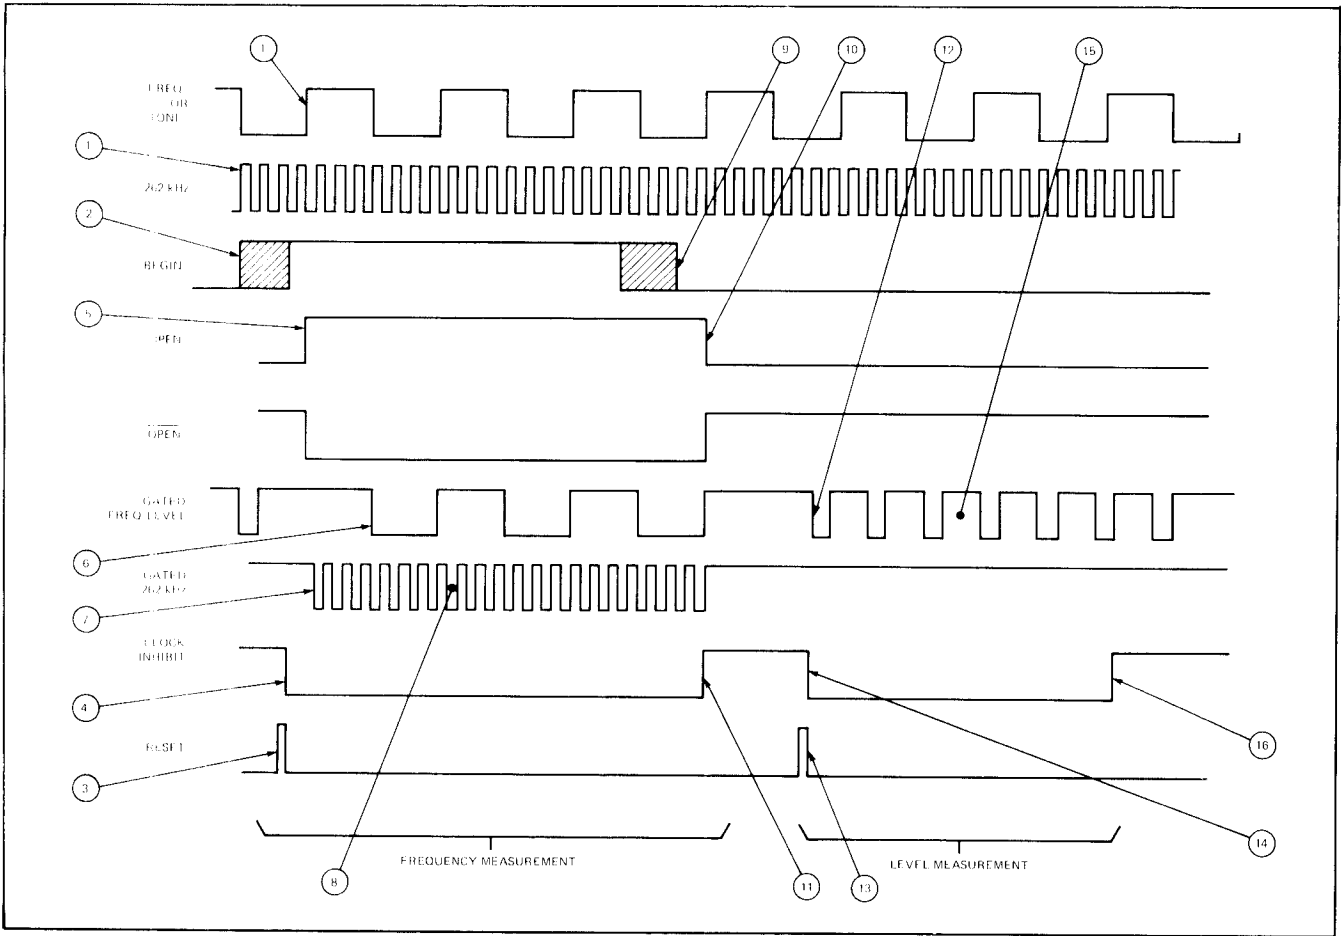

Figure 8-4. Frequency and Level Measurement Timing
8-33. Two counters are used to measure level and frequency. These counters are enabled by Port 5 bit 3 of the microprocessor and count pulses present for each counter. To select frequency, the microprocessor writes a 1 latch U12. Following the procedure given in the timing diagram found in figure 8-4, steps 1 through 11, the microprocessor has enough information to calculate frequency. The counters are read by addressing and serially reading successive bits from the two counters. Counter no. 2 contains the number of 262 kHz clock transitions detected during the gating or "Open" interval. Counter no. 1 contains a count of the frequency cycles which occurred during this same interval. Frequency is the number of complete cycles in a unit time interval, i.e. 10 cycles in 60 msec would be $10 / .06 \text{ sec} = 167 \text{ Hz}$. The time interval is calculated from the number of counts in counter no. 2 by calculating $N / 262,144$ which is the amount of time it takes to
8-35. Level measurement is “gated” by an internal timed loop in the microprocessor. The interval is accurately controlled by the microprocessor using the “Inhibit” command to counter no. 1 as shown in Figure 8-4 items 12 through 16.